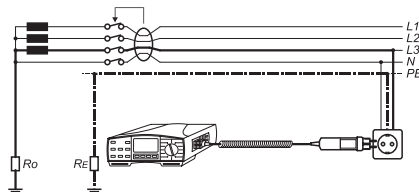
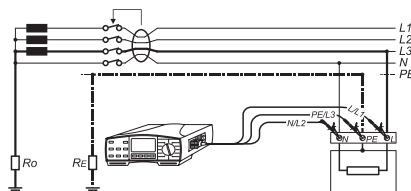
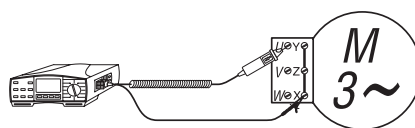

Figure 44: Voltage Measurement using COMMANDER 1
Figure 45: Voltage Measurement using Test Leads
Figure 46: Voltage Measurements using COMMANDER 2
- RCD (4) • Rotary Field (5) • Cable Locator (5)
- ▶ Connect the desired test lead to the 4-pole test connector (17) of UNITEST EUROtest. Either use COMMANDER 1, the 3-pole test lead or COMMANDER 2 (available as accessory Cat. No.1223).
- ▶ Connect the test leads to UUT in accordance with Figure 44, Figure 45, or Figure 46. If desired, this connection information can directly be retrieved on the measurement instrument using the key 'HELP'. Repeated pressing of the key 'HELP' indicates the various options for connection.